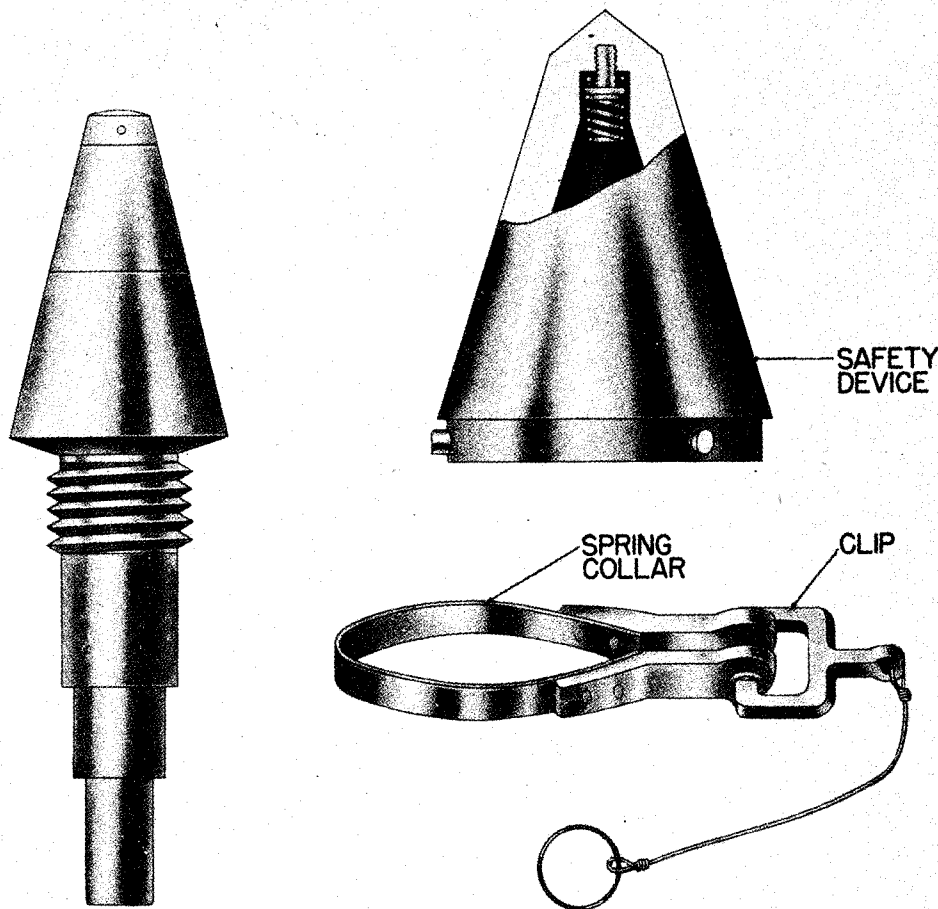

Figure 266 – Nose Impact Fuze R.S.A. Model 1930
3. Safety device for use with the R. S. A. Fuze 30/45, Model 1930: This is shown in figure 266. It consists of a single piece of bronzed steel in the shape of a hood. Inside of the apex of the hood is a spring which holds the head of the fuze away from the hood, and assists in the removal of the hood after the bomb is released. The hood is held in the head of the fuze by three spring-loaded pins, which pass through the lower portion of the wall of the hood, and are held in position by a spring collar. When the collar is closed by the clip, the pins are pressed into a groove on an adapter, which screws into the bomb. When the bomb is released, the clip is pulled away, the three pins are free to move, and, with the assistance of the spring, the safety hood falls away from the path of the bomb.